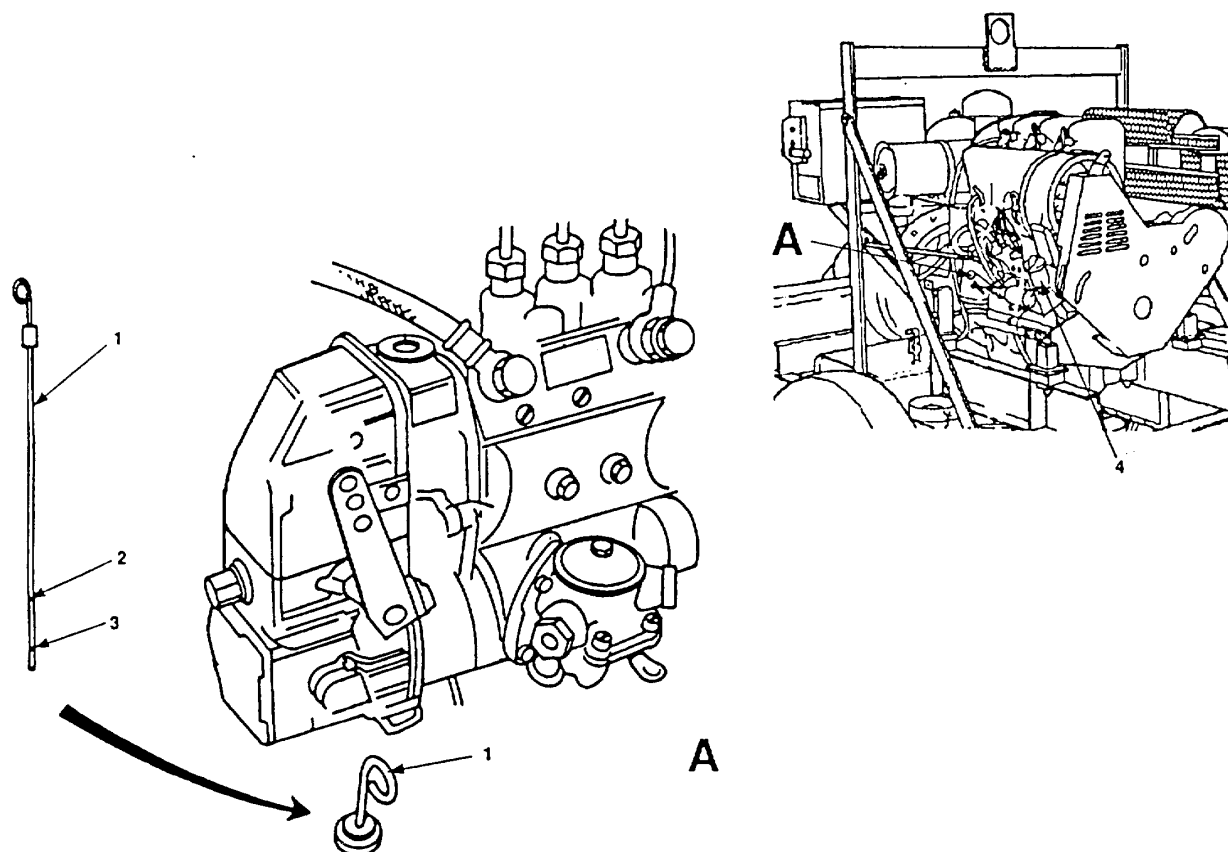

Figure 3-1. Checking Engine Oil Level.
- a. Pull out dipstick (figure 3-1, 1), and wipe it clean with a rag.
- b. Replace dipstick (1) by pushing it in as far as it will go; then, withdraw it again.
- c. Check oil film left on dipstick. It should extend to upper mark (2) .
- d. If level is below upper mark (2) or only reaches to lower level (3), refer to LO 10-4320-343-12 and fill to top mark (1).